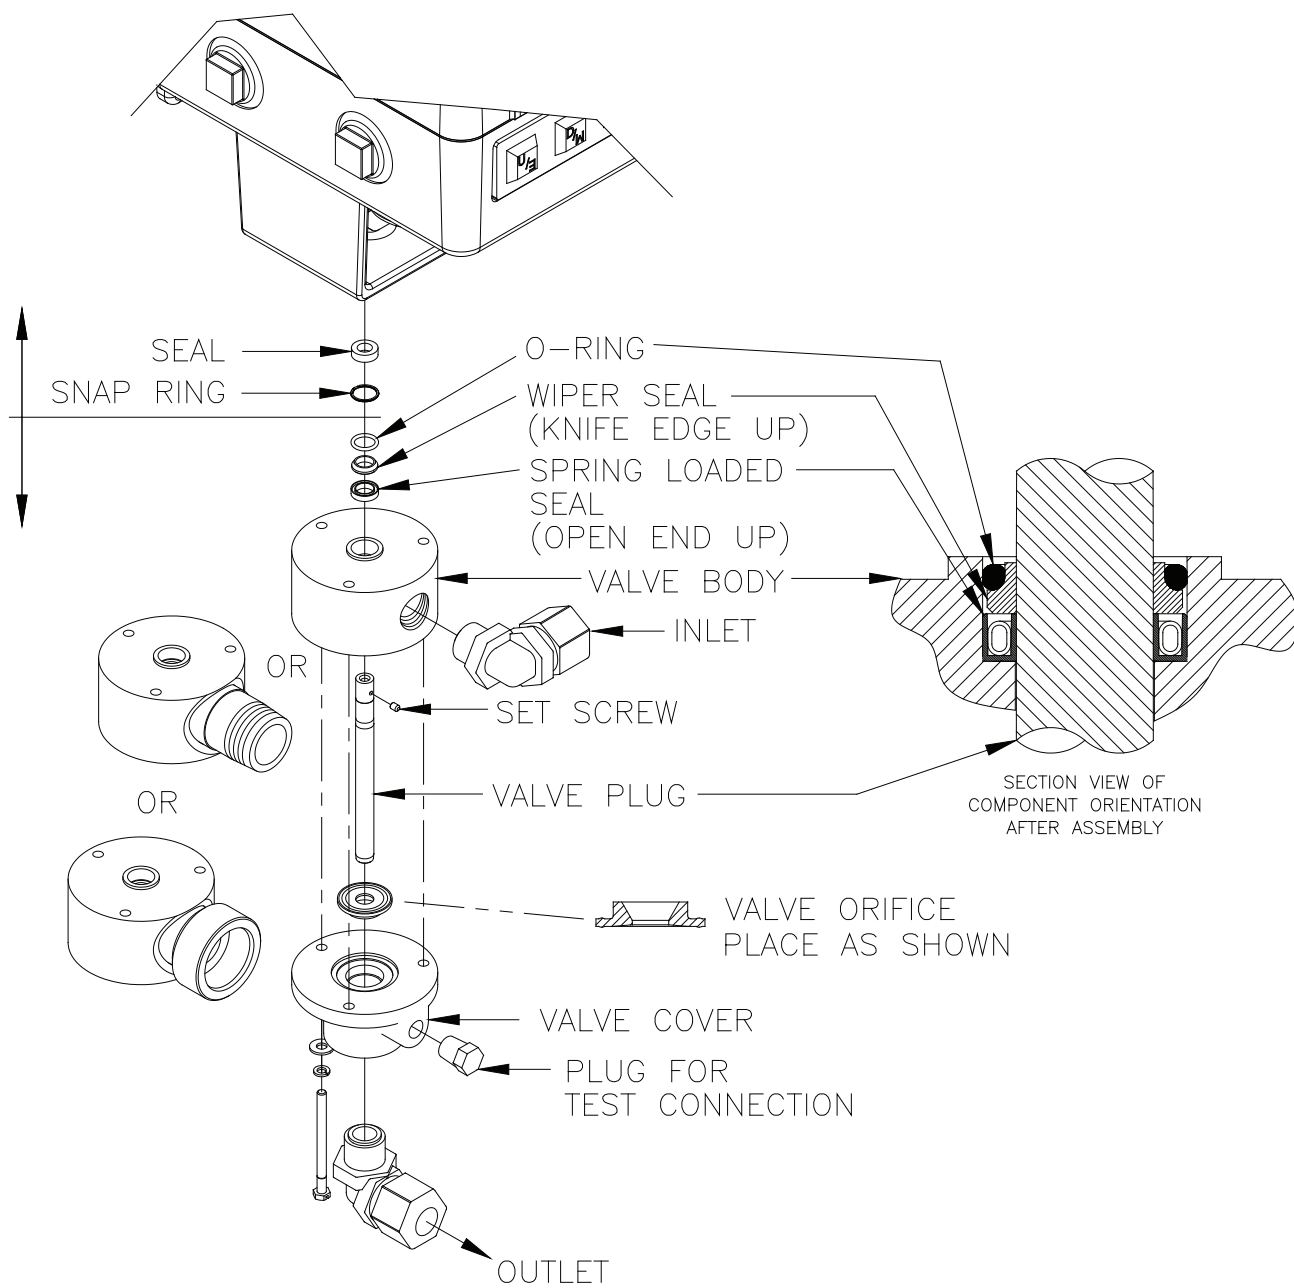

Figure 14 - Exploded View of 1" Stroke Rate Valve
To assemble a disassembled valve body, perform the following procedure. Refer to Figures 14 & 15 as appropriate.
6. Carefully slide the valve body orifice onto the valve plug as shown in Figure 14.